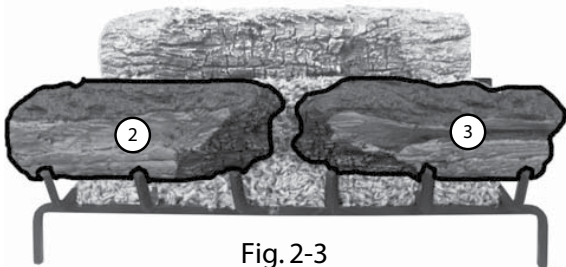

Fig. 2-3
3. Set the bottom left and right logs #2-3 at the front of the burner with the charred ends facing inward. Leave a small gap in between the two charred ends. (Fig. 2-3). Center the logs, with their backs up against the burner tabs. (The bottom left log is longer and will slightly stick outward more than the bottom right log.)